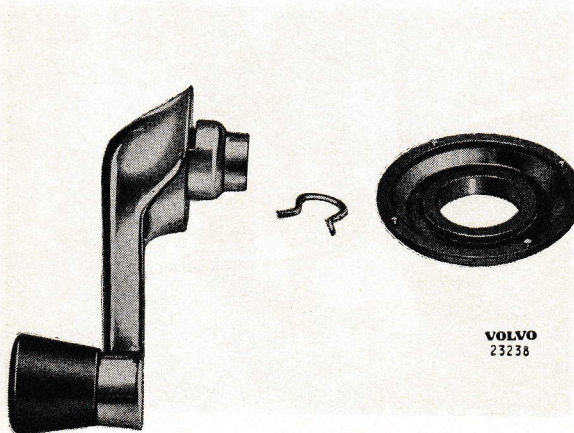

Fig. 8. Removing the armrest.
1. Remove the armrest. This is attached with two screws which are accessible from underneath the armrest, see Fig. 8.